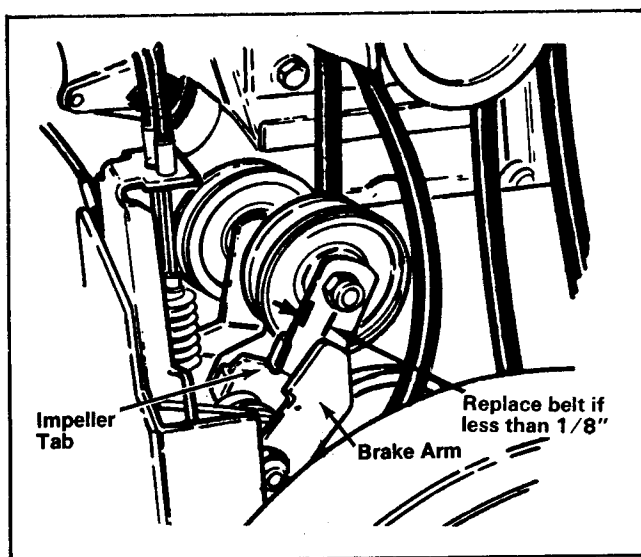

Figure 4
2. Check idler and brake adjustment. There should be a minimum clearance of 3 mm (1/8") between the tab on the impeller idler arm and the brake arm. See Figure 4. If there is less than 3 mm (1/8") clearance, the belt must be replaced.